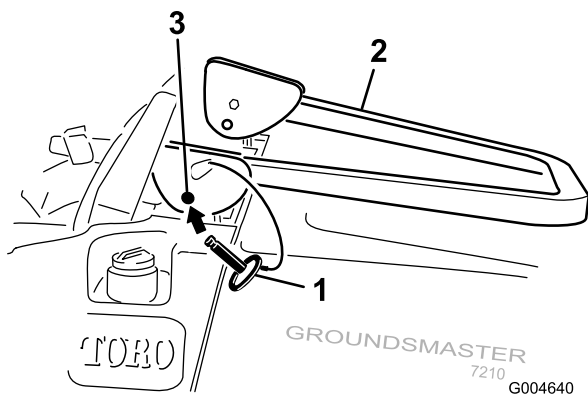

Figure 11
2. Lower the roll bar to the down position (Figure 11).